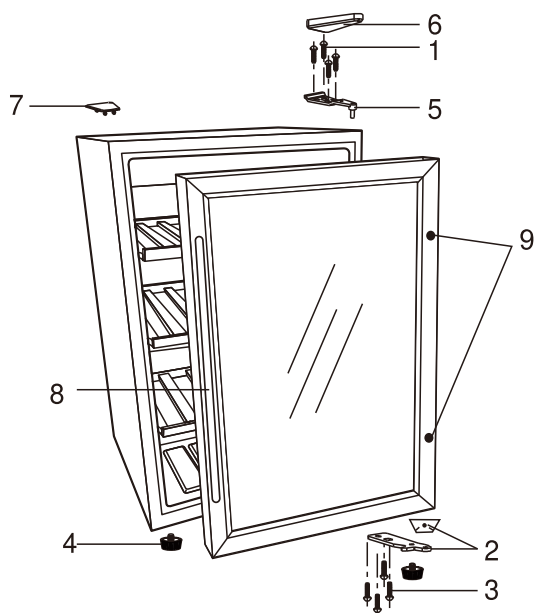

Fig. 3
- Open the door and slightly pull back the door gasket behind to reveal the two (2) holes and screws that secure the handle to the door.
- Using a screwdriver (not included), remove the handle (Fig. 3: No. 8) by rotating the two (2) screws counterclockwise. Remove the screws and washers and place in a secure location. Place handle on a padded surface.
- On the opposite side of the door, you will notice two (2) filler screws (Fig. 3: No. 9) covering the holes where the handle is to be installed. Using a flathead screwdriver (not included) remove the two (2) filler screws (Fig. 3: No. 9) by rotating clockwise from the inside of the door.
Note: Do not attempt to remove these filler screws (Fig. 3: No. 9) from the exterior of the door as you cause damage to the stainless steel door frame.
- Mount the filler screws (Fig. 3: No. 9) over the holes on the opposite side of the door.
- Install the handle (Fig. 3: No. 8) on the desired side. (See “Installing the handle” section on page 6)